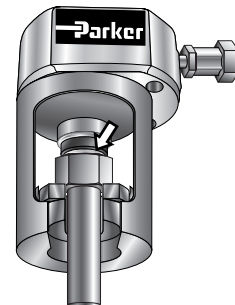

Figure 52
4. Close the pressure relief valve on the side of the hand pump. Pump the hand pump until the ram reaches a positive stop. At this point an increase in resistance of the handle will be felt and the nut will bottom against the shoulder of the body die Figure 52.